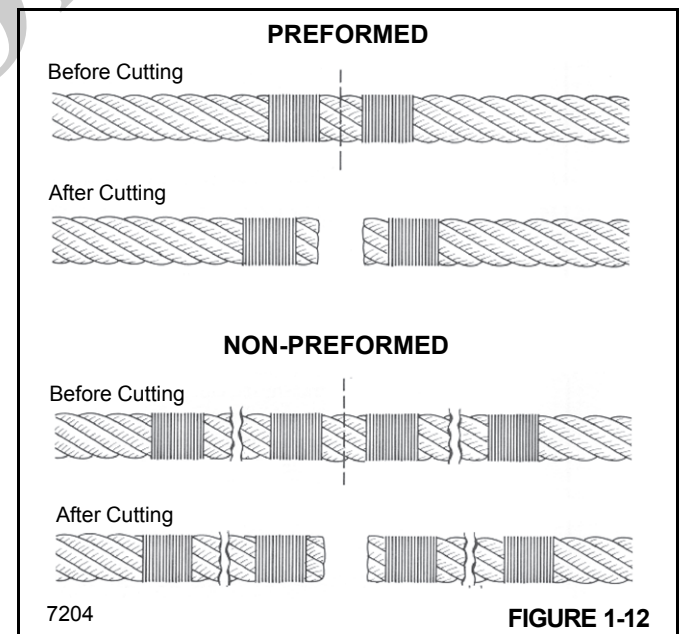

FIGURE 1-12
**NOTE:** Non-preformed wire rope should have two seizings located on each side of the cut (Figure 1-12).